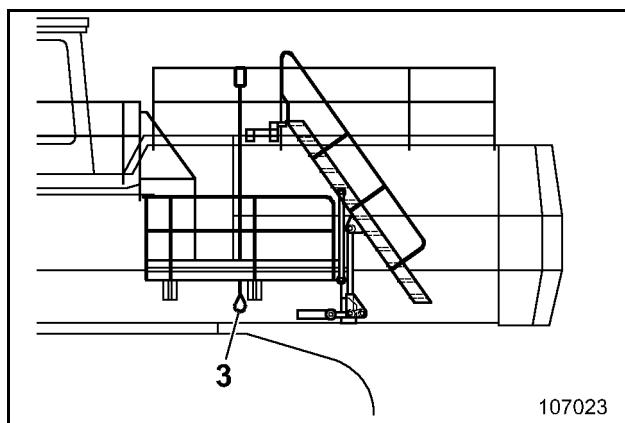

Fig. 2-15:
- Pull down rope (3, Fig. 2-15:).